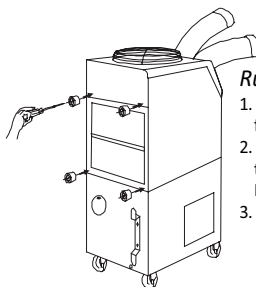

Figure 16 – Rubber Stopper attachment
2. Place the rubber stoppers on the rear of the unit as shown in Figure 16.